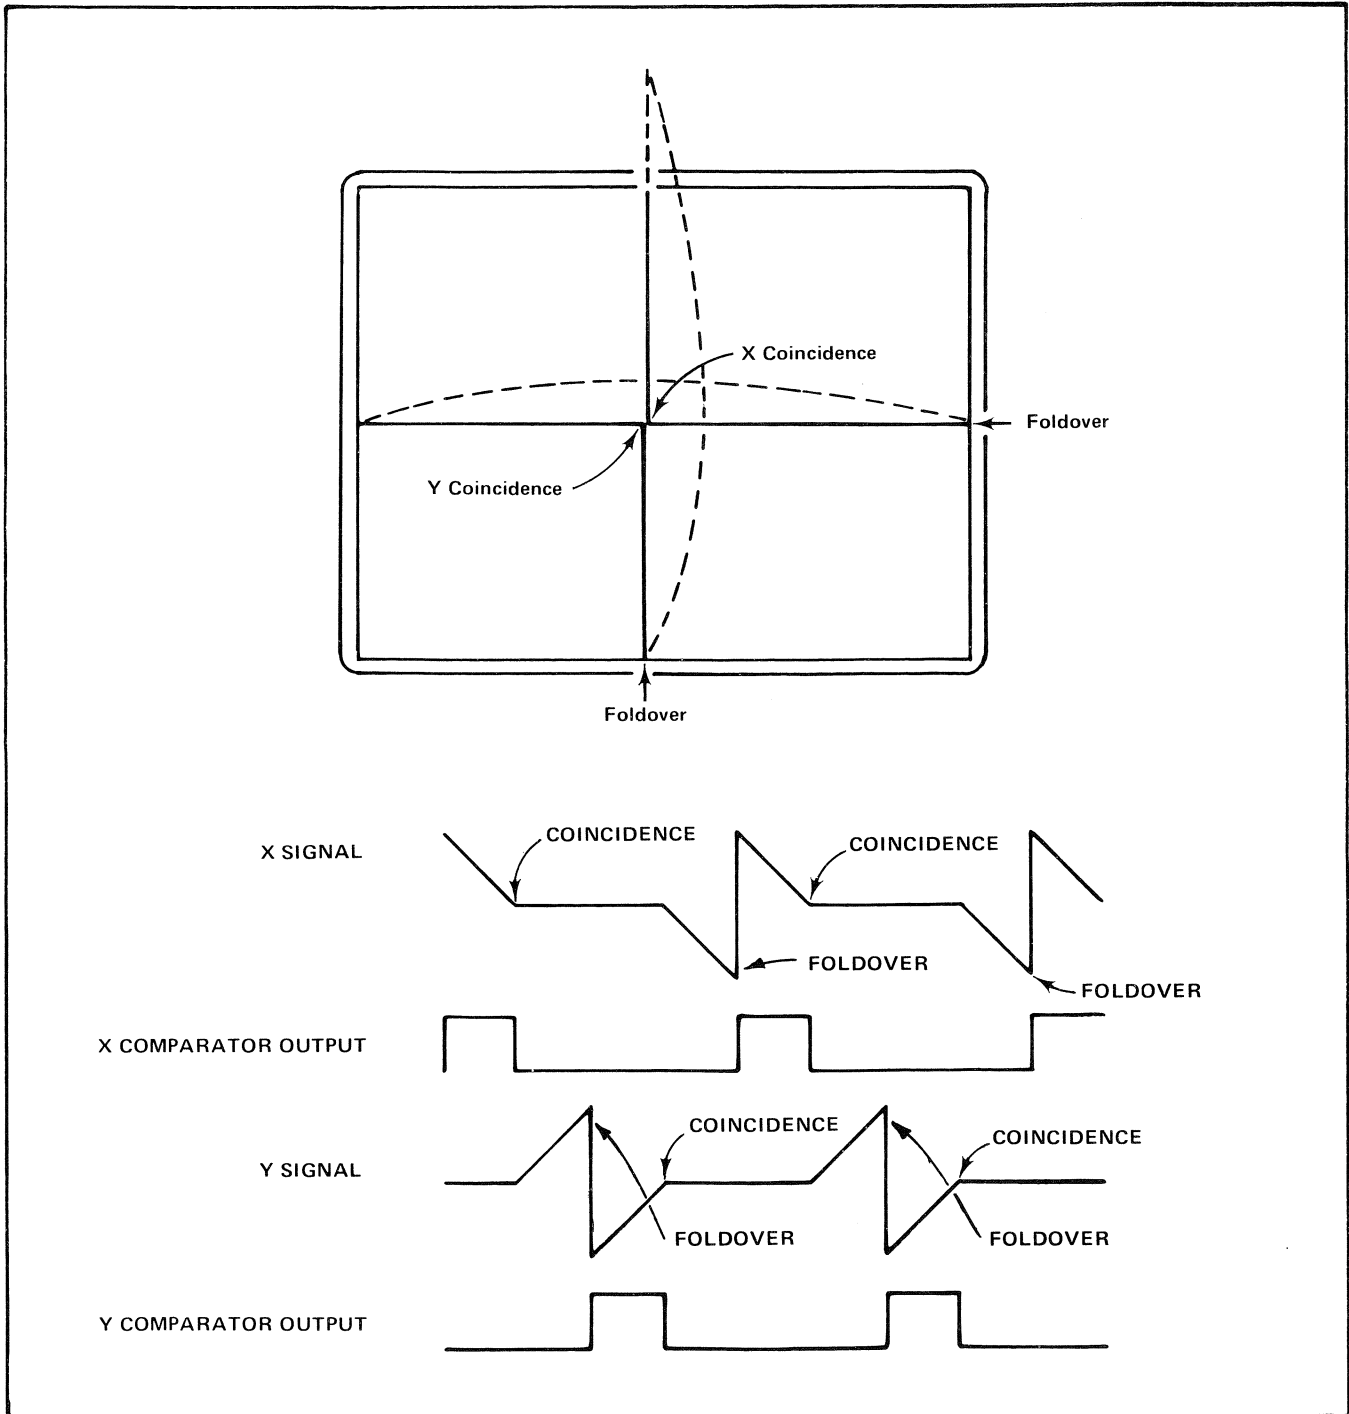

Fig. 6-2. Drawing a Crosshair Cursor Display.
**Cross-Hair Generator.** When  $\overline{\text{CURSE}}$  goes low, the Cross-hair Generator is activated. When first activated, the Cross-hair Generator begins sending  $\overline{\text{DOWN}}$  pulses to the Y Register. Each time it pulses, it sends a short  $\overline{\text{Z}}$  pulse to turn on the display beam. As the Y Register output decrements, it causes the output of the Y D/A to change accordingly. Thus, the display beam begins moving in the down direction. The output of the Y D/A is being sampled by the Cross-hair Generator. When this voltage changes to the point where it just passes the voltage from the Y position Potentiometer, the counting pulses switch to the RIGHT line. This is known as "Y coincidence". The Y Register maintains its value while the X Register is incremented. The output of the X Register increments once with each low  $\overline{\text{RIGHT}}$  pulse, causing the output of the X D/A to change accordingly. When the analog voltage at the output of the X D/A just passes the voltage input to the Cross-hair Generator from the X Position Pot, "X Coincidence" is reached, and the count once again switches to the Y Register. See Fig. 6-2 for illustration showing the generation of the Crosshair cursor.
**Foldover.** If the X Register begins counting to the right of the X Coincidence Point, the count continues to increment from the X Register until count 1023 is reached. When this occurs, the Most Significant Bit (MSB) of the X Register causes the Margin Shifter to output an End of Line ( $\overline{\text{EOL}}$ ) signal. This signal is input to the Crosshair Generator to inhibit the count of the X Register. This delay allows the display beam time to return to the left side of the display and stabilize before the count resumes. This is known as Foldover (see Fig. 6-2). The signal from the Crosshair Generator (as a result of this action) is  $\overline{\text{FPAUSE}}$ . It inputs to the Format Effector to inhibit its functions during the time  $\overline{\text{FPAUSE}}$  is active (0.5 ms). The count then continues